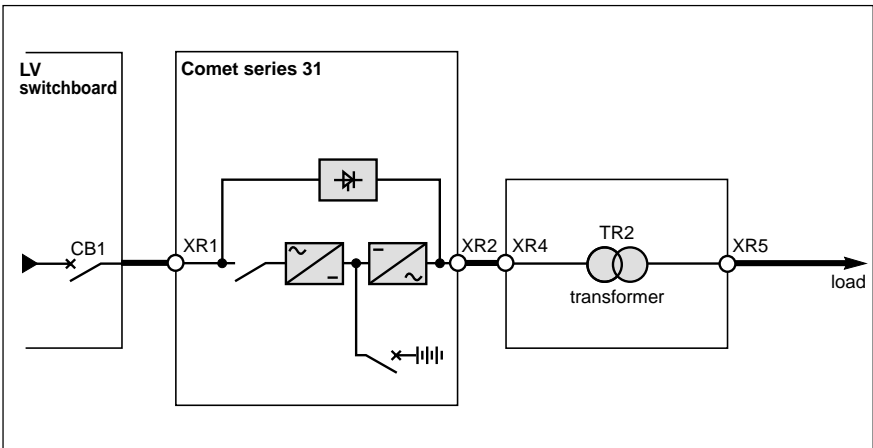

Fig. 27
- ▶ between the **Comet** load output terminals and the load for **Comet series 31** (see figure 27).